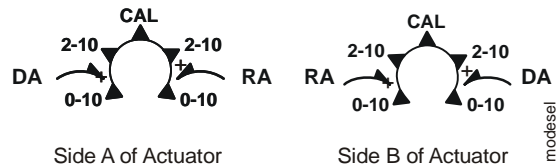

Figure 12: Mode Selection
The M9220-GGx-3 Proportional Electric Spring Return Actuators are factory set for Direct Acting (DA) operation. In DA mode, applying an increasing input signal to the control input drives the actuator away from the spring return position. Reverse Acting (RA) operation is also available. In RA mode, applying an increasing input signal to the control input drives the actuator toward the spring return position. Figure 11 and Figure 12 indicate how the drive direction for the actuator depends on the spring return direction and the position of the mode selection switch.
The M9220-GGx-3 Proportional Electric Spring Return Actuators are factory set at Direct Acting (DA), DC 0 to 10 V control input (Figure 12). To change to RA operation, move the mode selection switch from DA to RA. The DC input signal is selectable from DC 0 to 10 V or from DC 2 to 10 V, which corresponds to 0 to 95° rotation. If the rotation range is reduced, the end-stop is reached with a reduced input signal. For example, if a DC 0 to 10 V input signal is selected and the rotation range is limited to 75°, the end-stop is reached at DC 8.3 V. If an external 500 ohm resistor is placed across the input (see Figure 10), the switch positions then select between 0-20 mA or 4-20 mA.
1. With power off, move the mode selection switch to the CAL position (Figure 12). Then, energize the actuator. The actuator automatically rotates until the end-stops are found, and proportionally reconfigures the control input range to the reduced rotation range.